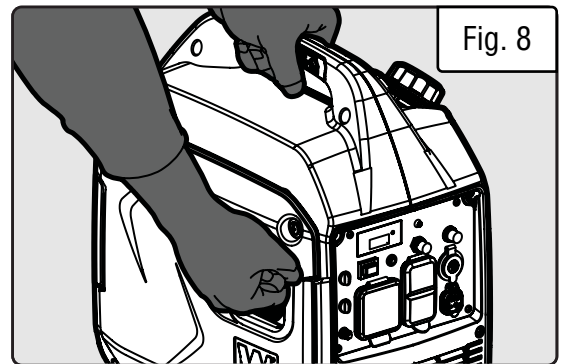

Fig. 8
8. Pull on the recoil starter handle (Fig. 8) slowly until a slight resistance is felt, then pull quickly to start the engine. Return cord gently into the recoil starter. Never allow the cord to snap back.